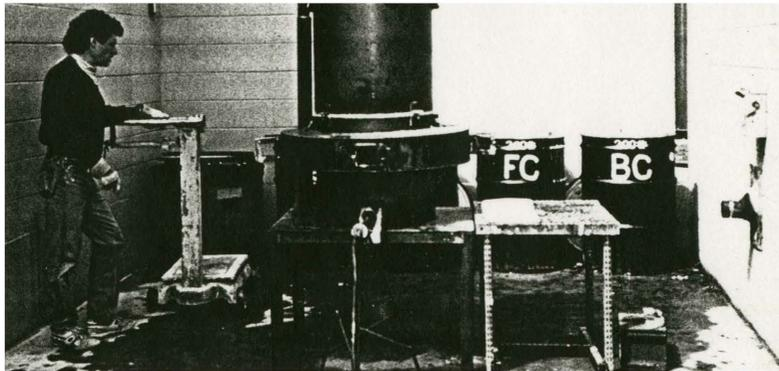

Fig. 10. Propane torch burn-in. Note open tuyeres, "charging" deck, scale for weighing charges, barrels of bed coke, fuel coke and iron.
- C. Place lighted propane torch on stand and just inside breast hole, (time: 10:50am) begin with propane on low, advance to high in 30 minutes, see Fig. 10.